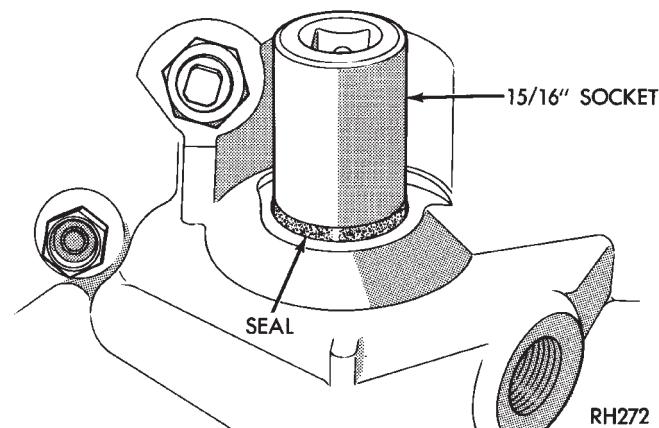

Fig. 41 Manual Lever Shaft Seal
- (2) Check condition of manual lever shaft seal in transmission case. Replace seal if lip is cut or worn. Install new seal with 15/16 deep well socket (Fig. 41).